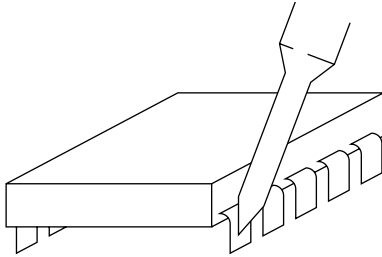

FIGURE 8-18: Heat the IC pin for just a moment before feeding solder to the tip/pin junction.
2. Place the chisel side of the tip of the soldering pencil against the leg of the pin and almost immediately apply the solder to the pin exactly where the soldering tip meets the pin (see Figure 8-18).